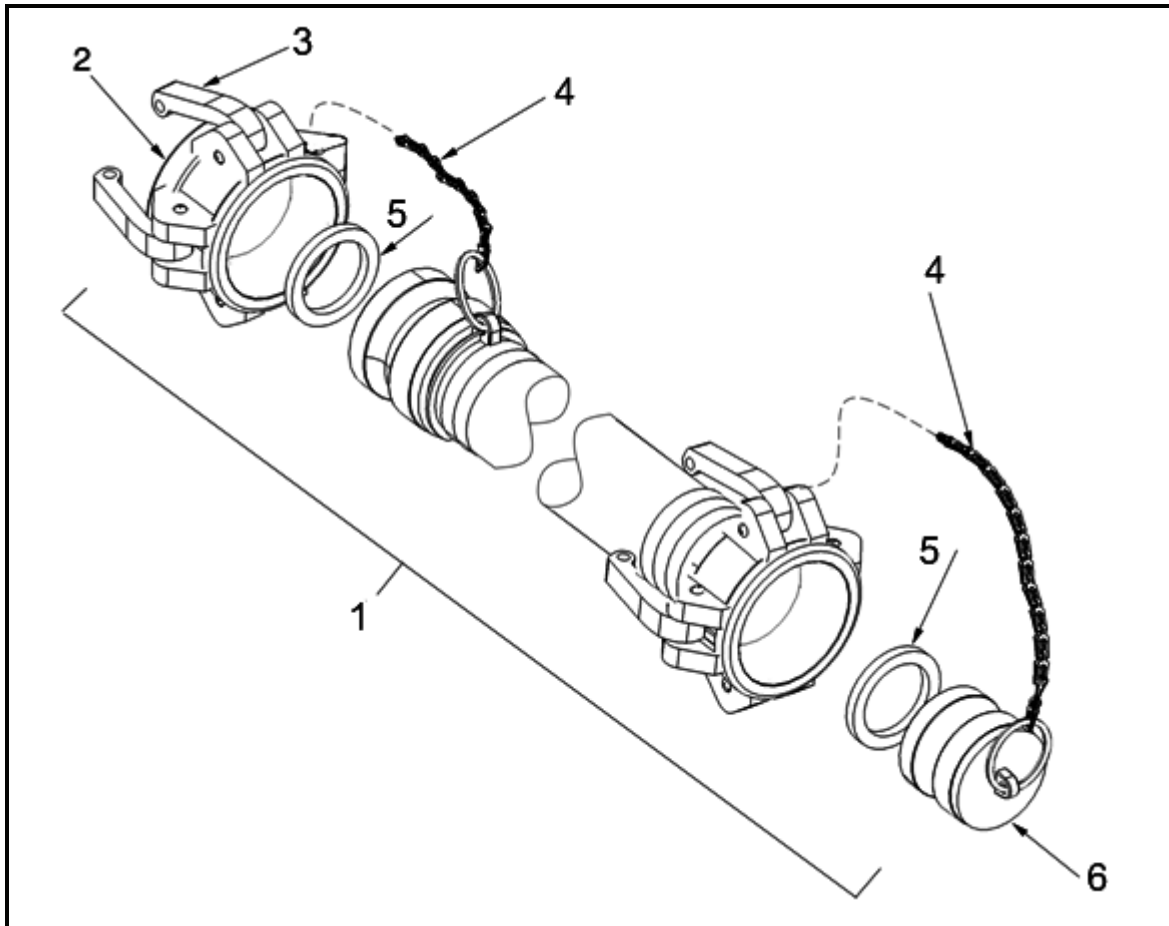

Figure 1. Fill/Discharge Hose Assembly
2. Install two chain assemblies (Figure 1, Item 4), dust cap (Figure 1, Item 2), and dust plug (Figure 1, Item 6) to hose assembly (Figure 1, Item 1).
3. Install new gasket (Figure 1, Item 5) on dust plug (Figure 1, Item 6).
4. Connect dust cap (Figure 1, Item 2) and dust plug (Figure 1, Item 5) to hose assembly (Figure 1, Item 1) by pushing in on cam-lever arms (Figure 1, Item 3).